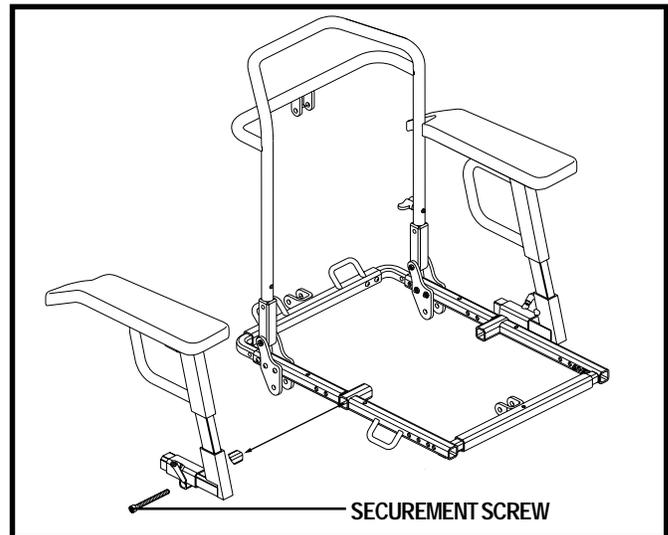

Figure 17. Armrest Width Adjustment
1. Loosen the securement screw located on the bottom of the armrest receiver bracket. See figure 17.